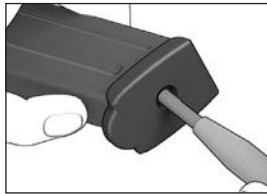

Figure 22
- Using a blunt, pointed instrument, depress the locking detent located in the floorplate and hold it there (see Figure 22).